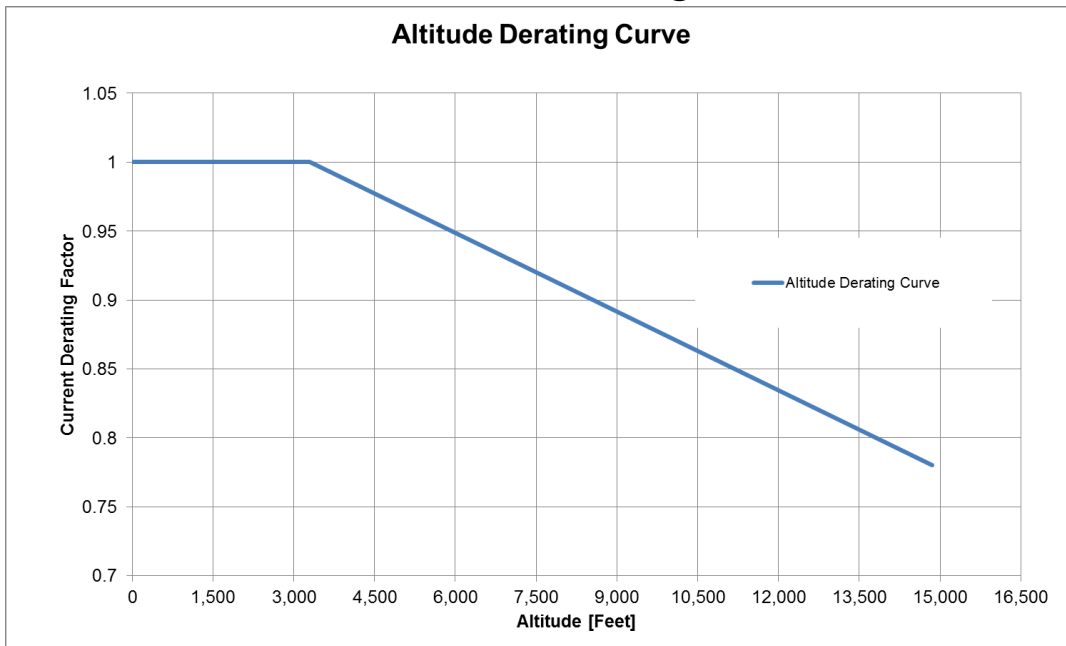

Figure 3-4: Altitude Derating Curve
- Altitude:** 3,300 feet above sea level without derating. See Figure 3-4: Altitude Derating Curve (p9) for derating information.